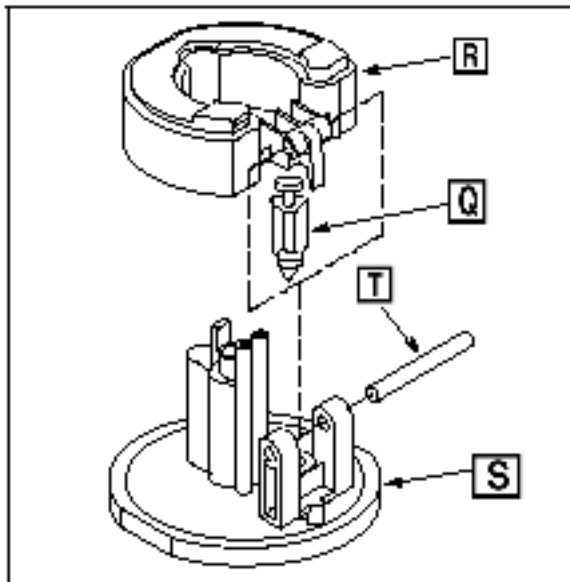

Fig. 146
Put the inlet needle (Q) Fig. 146) into the slot on the float (R).
Install the float hinge pin (T) Fig. 146).